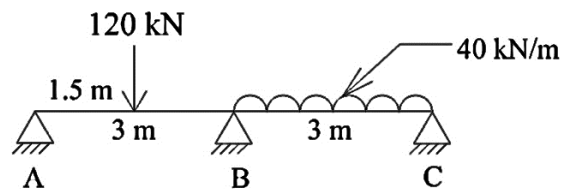

Fig. 5.1
1. Analyse the continuous beams shown in Fig. 5.1 by direct stiffness method